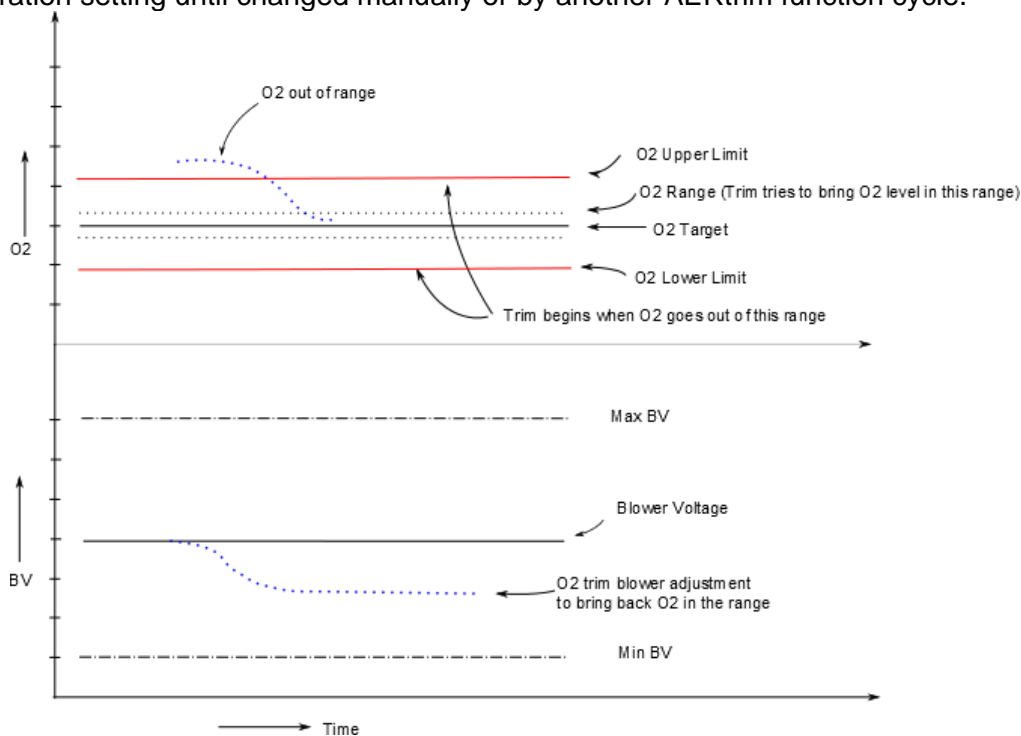

Figure 3-2: AERtrim Logic
Figure 3-2 shows how the controller would react to an O₂% reading above the upper limit. It will reduce the blower voltage (BV) until the O₂% reading is within the Target Range, provided the BV adjustments are within the limits for that fire rate. The control will then store this as the new BV calibration setting until changed manually or by another AERtrim function cycle.